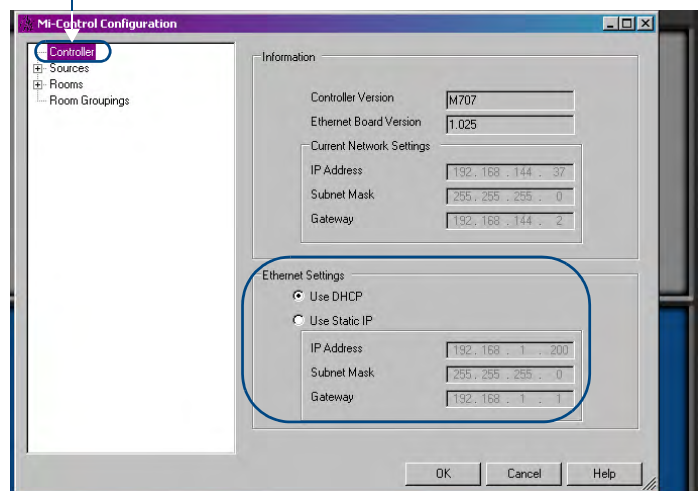

FIG. 9 Mi-Control software - Control Configuration screen
- Click the **Advanced** button to access the *Control Configuration* screen (FIG. 9):